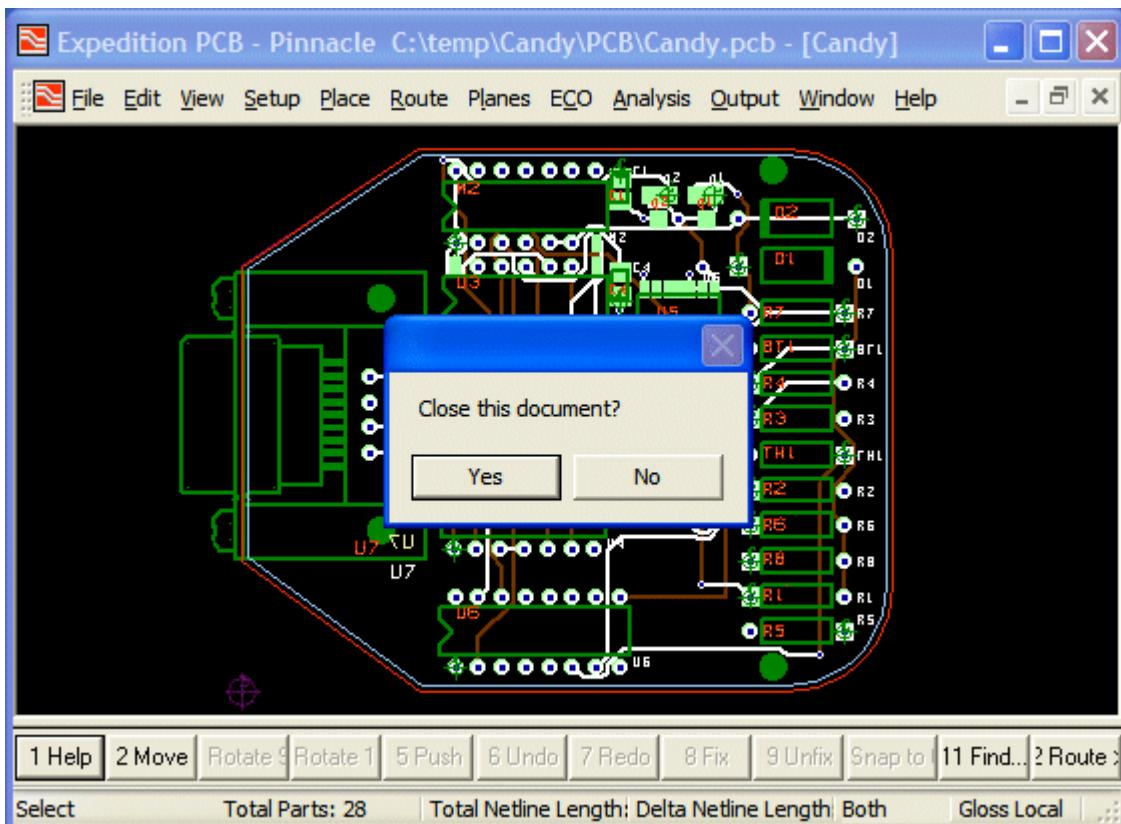

Figure 11-2. Using an event to invoke an in-process event handler script.
- 5) Observe the *MsgBox()* with its **Yes** and **No** buttons appear on the screen as illustrated in Figure 11-2.